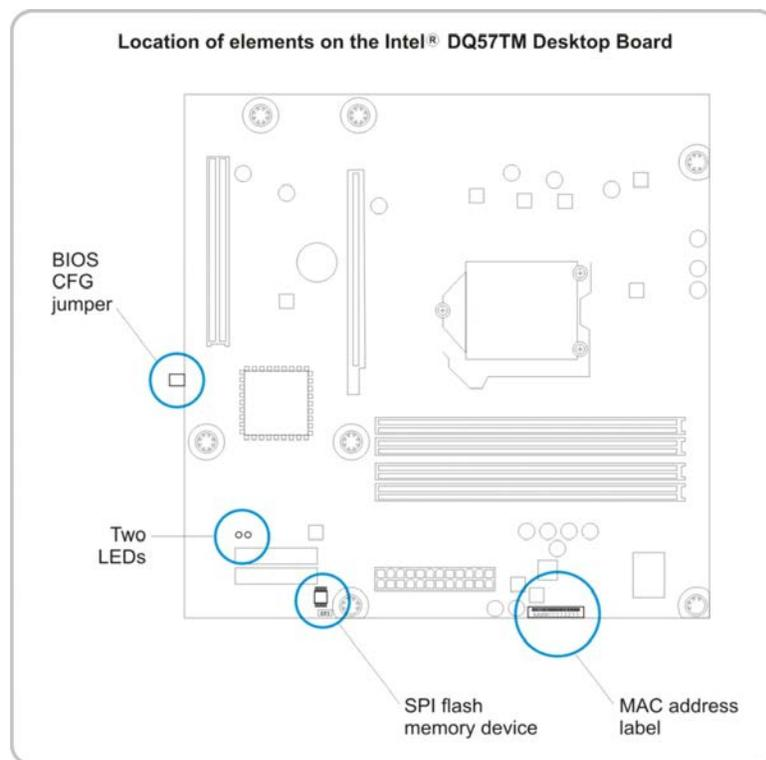

Figure 2-1. Intel® DQ57TM Desktop Motherboard – key elements
3. Use the UEFI Shell firmware update utility (`FirmwareUpdate.efi`) to patch the BIOS with the motherboard's MAC address (see Figure 2-1):
Note: Replace `0011AA33CC55` with the motherboard's MAC address (Figure 2-1) which can be found near the ATX power connector.
Figure 2-1 shows the location of the BIOS CFG jumper, the SPI flash memory device, and the MAC address label. The left LED is the green standby-power indicator LED; the right LED is the red Intel ME indicator LED.